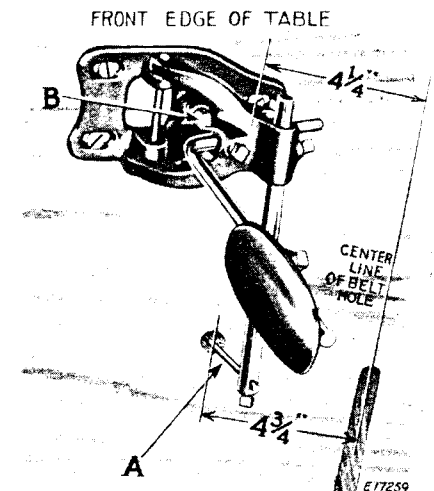

Fig. 2. Position of Knee Lifter Under Table
Fig. 2 shows the correct location of the knee lifter. The knee lifter bracket should be assembled so that the lifter rod (A) clears the table. The screw slots in the bracket provide the necessary adjustment. The stop stud (B, Fig. 2) should be set to stop the action of the knee lifter as soon as the presser foot is raised enough to trip the hand lifter.